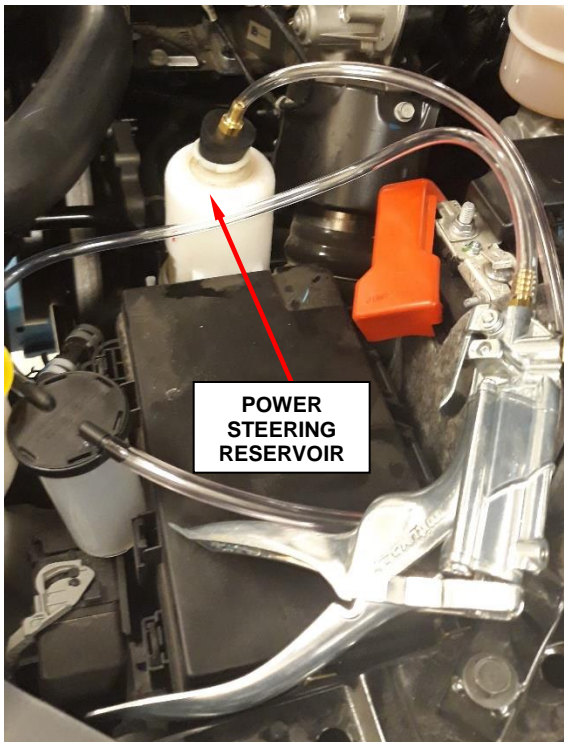

Figure 13 – Reservoir Adapter
3. Tightly insert **P/S Cap Adapter 9688A** into the mouth of the reservoir (Figure 13).
4. Attach **Hand Vacuum Pump C-4207-A**, or equivalent, with reservoir attached to the **P/S Cap Adapter 9688A** (Figure 13).